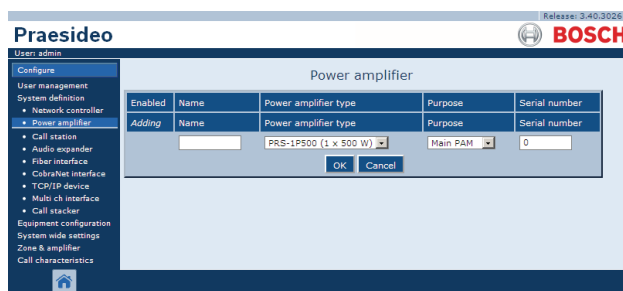

figure 43.5: Add power amplifier, step 2
- 2 Click the *Add* button to add a new power amplifier to the system. A screen similar to the one in figure 43.5 appears in the main frame of the web interface.